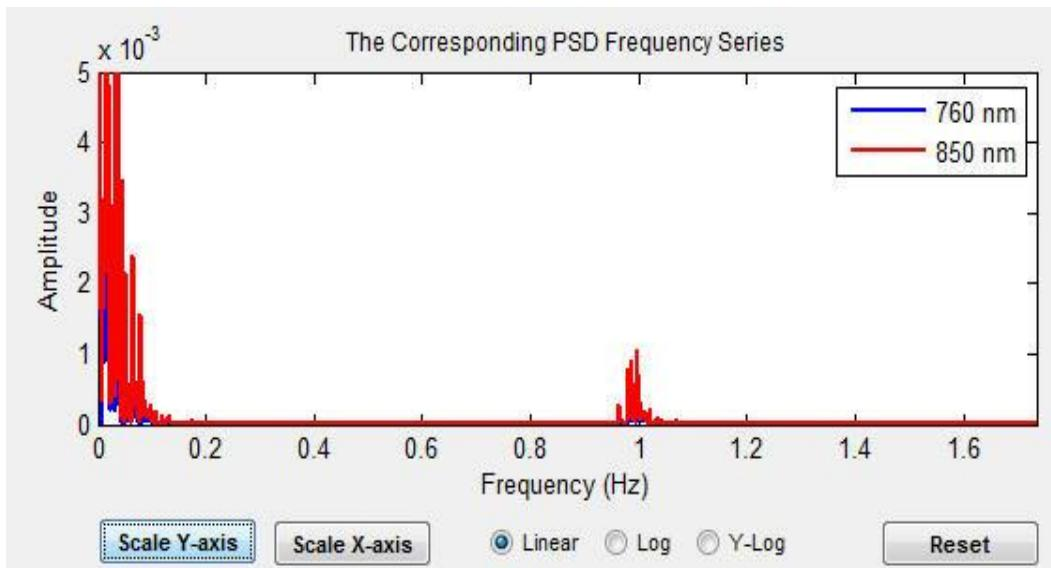

Figure 5-20. An example of displaying the rescaled PSD.
Step 3: Click the **OK** button to close the text field window. Illustrated in Figure 5-20 is an updated plot, with the new vertical scale limits (for this and the subsequent examples in Section 2.4, we intentionally work with PSDs derived from raw-data time series, so that the full frequency content present in fNIRS signals can be appreciated):